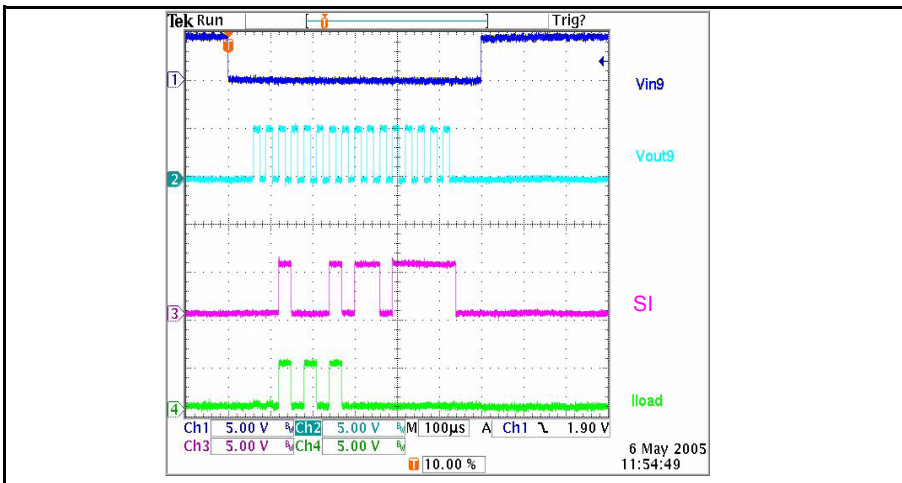

Figure 19 Switching off the Latch Function of Overvoltage at VDD Pin
Step 2 Switch off the latch function for overvoltage at VDD with command WR_STATCON, setting CONFIG0(bit5) to 0, shown in Figure 19. This step is optional. Because unexpected Over Voltage fault will be latched and the channel can not be turned on again, this step will make it easier in the first try. In a real application with stable power supply this step is not necessary.